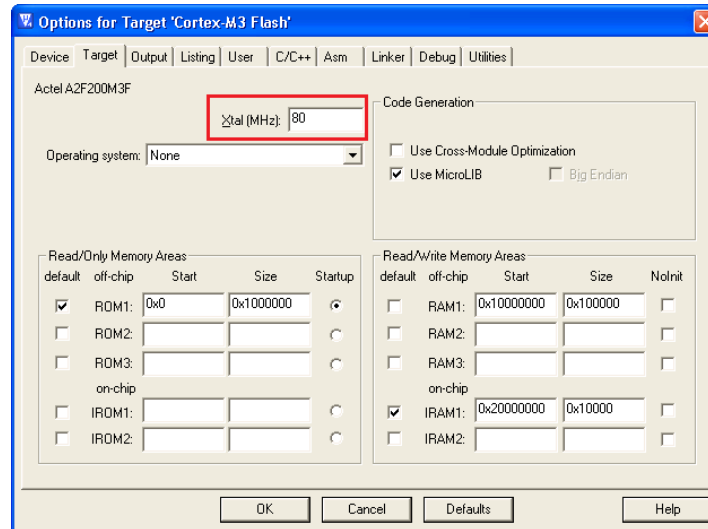

Figure 32 · Target Option for Target Cortex-M3 Flash
7. Go to the **Target** tab and change XTAL (MHz) clock to 80 as shown in Figure 32 .